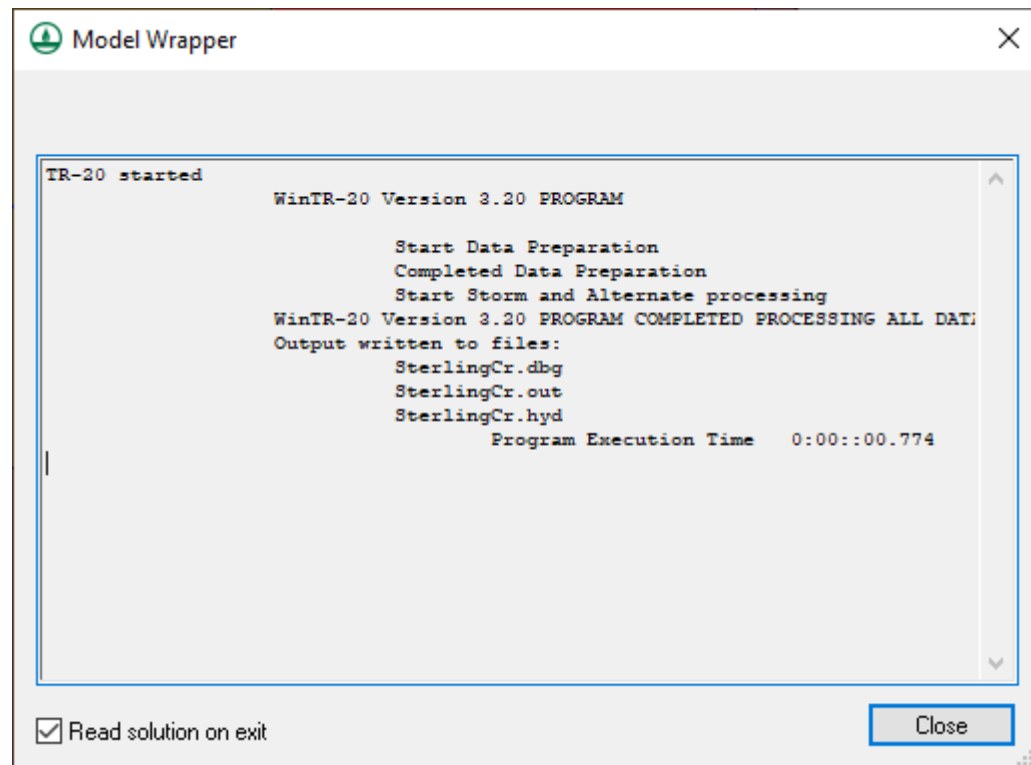

Figure 5 The Model Wrapper dialog for WinTR-20 after a successful run
3. The *Model Wrapper* dialog should appear and WinTR-20 will run (see Figure 5). After WinTR-20 is finished, click the **Close** button to import the solution and close the *Model Wrapper* dialog.